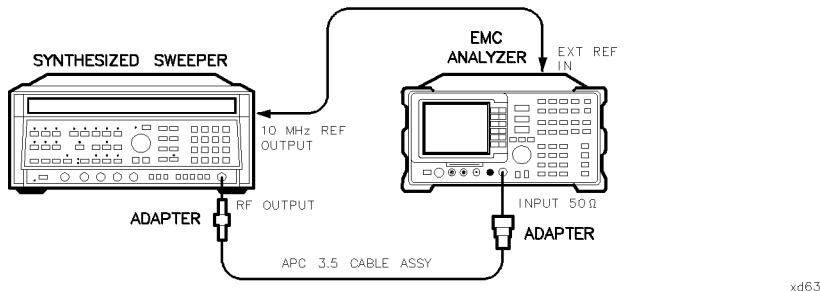

Figure 2-4.
1. Connect the equipment as shown in Figure 2-4. Remember to connect the 10 MHz REF OUT of the synthesized sweeper to the EXT REF IN of the EMC analyzer.